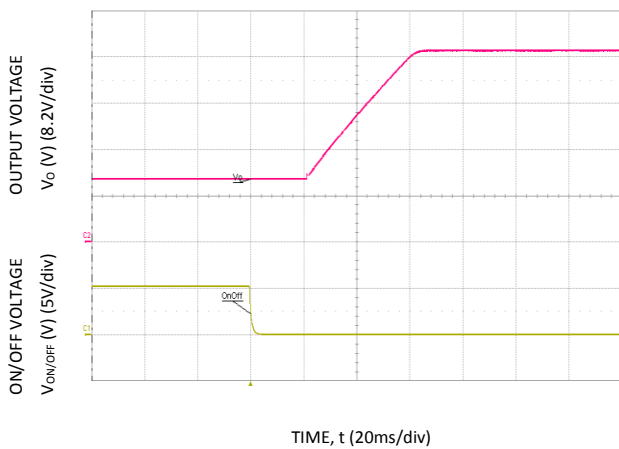

Figure 23. Typical Start-up Using On/Off Voltage ( $I_o = I_{o,max}$ ).
3. Please note because of the specific design of the BOOST topology, the input voltage will present on the output when the input voltage is applied. This will occur even when the unit is in its "OFF" State. When the module is turned ON, the output voltage will start to rise from  $V_{in}$  level and not 0V. When turning off, the output will only drop back to  $V_{in}$  (If  $V_{in}$  is still present). Please refer to Figure 23 for typical start-up waveform using Remote ON/OFF. it shows the  $V_{in}$  level present prior to turning the module "ON"
When the module is turned ON, the output voltage will start to rise from Vin level and not 0V. When turning off, the output will only drop back to Vin (If Vin is still present). Please refer to Figure 23 for typical start-up waveform using Remote ON/OFF. it shows the Vin level present prior to turning the module "ON"